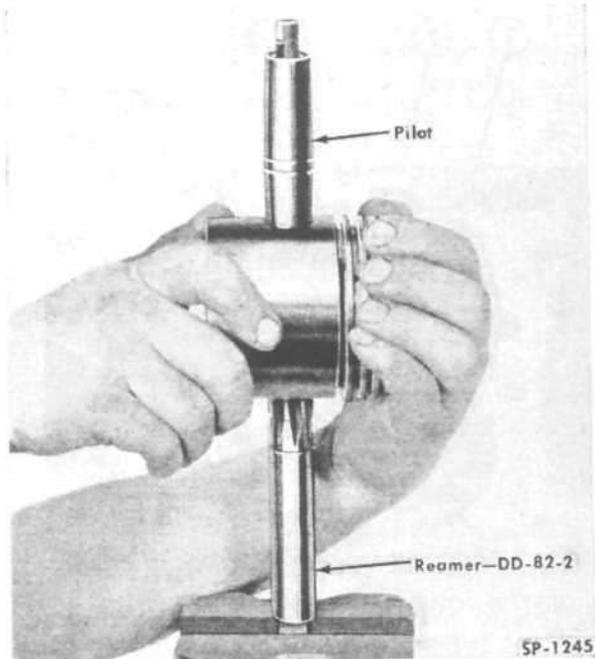

FIG. 38—REAMING PISTON PIN BORE
- Check piston pin fit. The piston pin should be a palm push fit at room temperature. If the pin is loose, a new pin must be used. It may be necessary to use a .003 inch [.0762 mm.] or a .005 inch [.127 mm.] oversize pin and ream the piston with Piston Pin Reamer DD-82-2 (Fig. 38) to obtain a push fit.